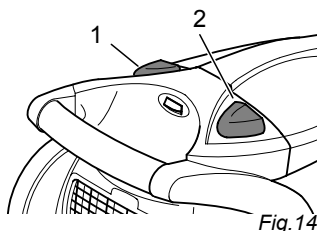

Fig.14
1. Switch off the cylinder vacuum cleaner using the on/off switch (Fig. 14/1) and pull the plug out of the socket.
3. Press the cable retract button (Fig. 14/2) to pull in the power cable. Guide the last part with the plug by hand.